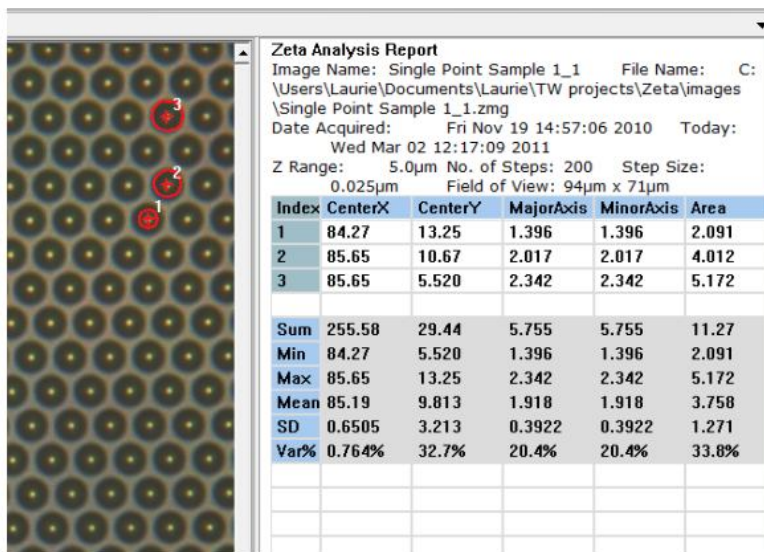

Figure 26. Measure by Region example
- Click on a feature in the 2D image. A red outline will appear that defines the boundaries of a region with the properties defined by the sliders. Every feature is labeled with an index. As soon as a feature is defined, a results table appears to the right of the image pane, as shown in Fig. 26. The reported parameters for each feature are the X and Y locations, the major and minor axis lengths (in microns), the area (in square microns), the volume (in cubic microns), and the X and Y locations of the highest point of the feature.